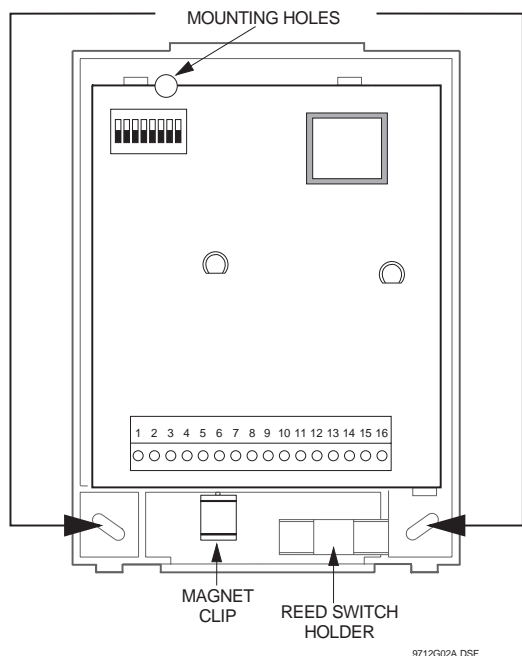

Figure 3. Wall Mounting Hole Locations
2. Place the back-plate on the wall and mark the three mounting holes (Figure 3).
The reed switch holder and magnet clip are located at the bottom of the back-plate (see Figure 3 for details).